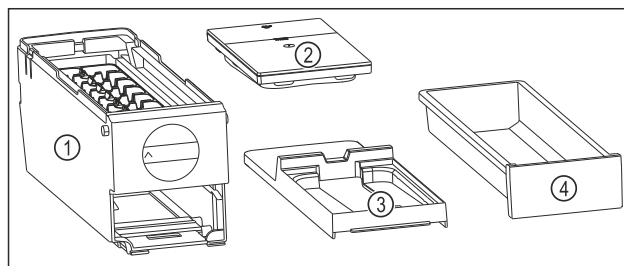

Fig. 126 Components of the EasyTwist-Ice
- ▷ EasyTwist-Ice is disassembled in four parts. (see Fig. 126)
- Only disassemble the EasyTwist-Ice into the illustrated components. (see Fig. 126)
- Clean the EasyTwist-Ice body Fig. 126 (1) as a complete unit.